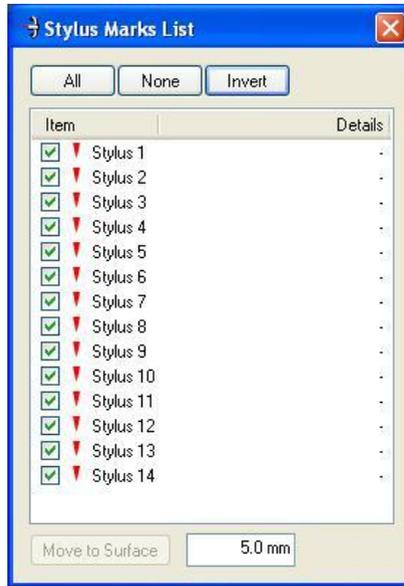

Figure 14: The Stylus Marks List dialog box.
- The stylus points may be turned off to view a clean image. Click on **Edit/Stylus Marks List...** (Ctrl+T) to bring up the **Stylus Marks List** dialog box (Figure 14). Select **None** or uncheck individual boxes in the list to view the object without the (selected) points.